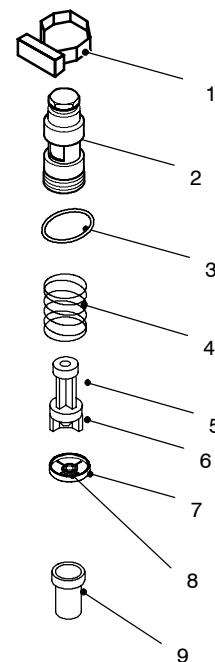

Fig. 68
When the flow rate through the d.h.w. circuit reaches about 2,5 litres/min', the float 6 (Fig. 68) is drawn towards the right.
14.2 Nomenclature and location of parts (Fig. 68)
- 3 Unscrew the body 2 (Fig. 68) and extract the flow switch group.
- 4 To remove the filter from the flow switch group separate the filter 9 from the threaded ring (Fig. 68) by levering it.
- 3 Unscrew the threaded ring 7 (Fig. 68) and remove it from the body 2.